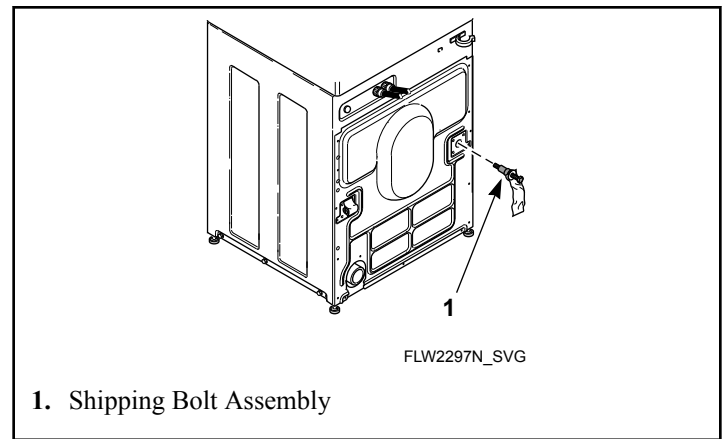

Figure 40
7. Insert shipping bolt assemblies into each shipping bolt hole. Refer to *Figure 40*.